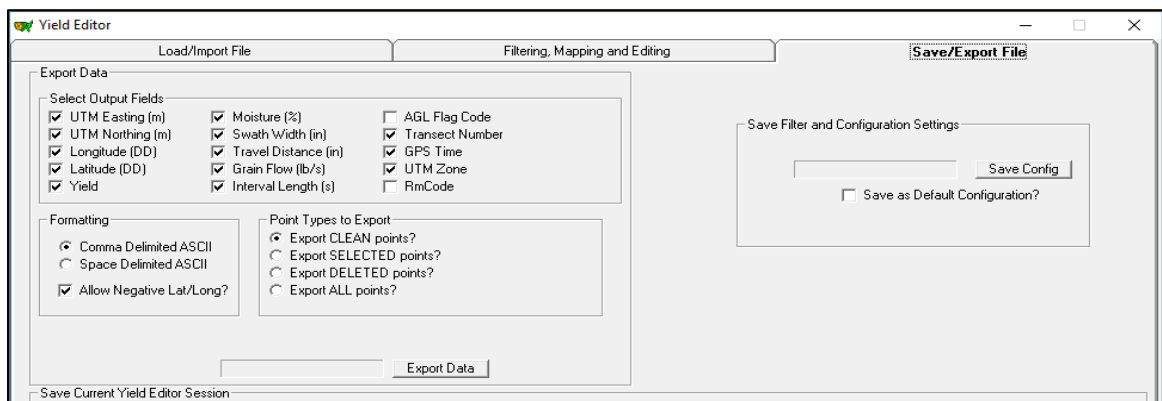
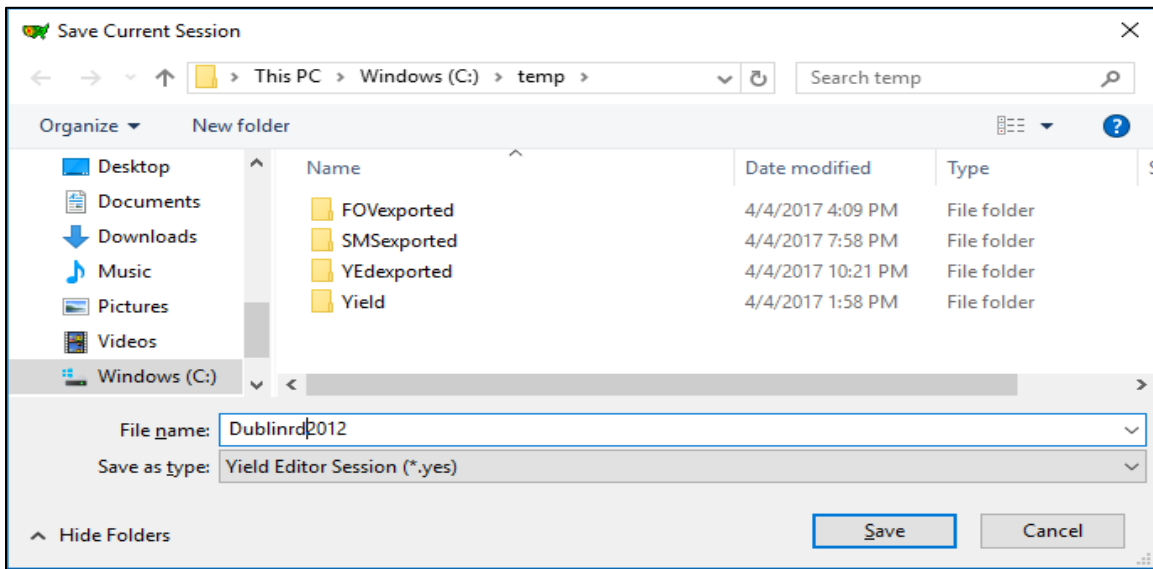

Figure 10. Data columns that will be exported from Yield Editor are selected.
Figure 17. Session files saved as *.yes file extension.
- Go to the tab 'Save/Export File'. Check all items as shown in Figure 10 before saving as default configuration. Save the settings as default under 'save filter and configuration settings'. Check 'save as default configuration?' and click on 'Save Config'. This will ensure that all the data files will have the same settings applied to them.
- Once cleaning is done, click on the “Save/Export File” tab in Yield Editor. Figure 10 shows all the parameters that should be checked for data export. Click on ‘Export Data,’ browse to folder, type the name of the exported file and save as CSV (*.csv) file. Caution: If any delays were applied to flow and/or moisture in Yield Editor, the values for flow and/or moisture in the exported datasheet will not correspond to the yield and location of the row because Yield Editor calculates yields involving delays in flow or moisture by simply reading back or forward in time (rows) for the number of intervals. It does not actually move the moisture or flow column values back or forward to match the row with the corresponding yield calculation, time point, and GPS coordinates. Hence, to avoid confusion, export yield and corresponding latitude and longitude information only. The next step is to save the session file as a *.yes file. These session files will be helpful if more editing or cleaning is needed later. Click ‘Save Session’, name it, and navigate to the desired folder, and click on Save (Figure 17).